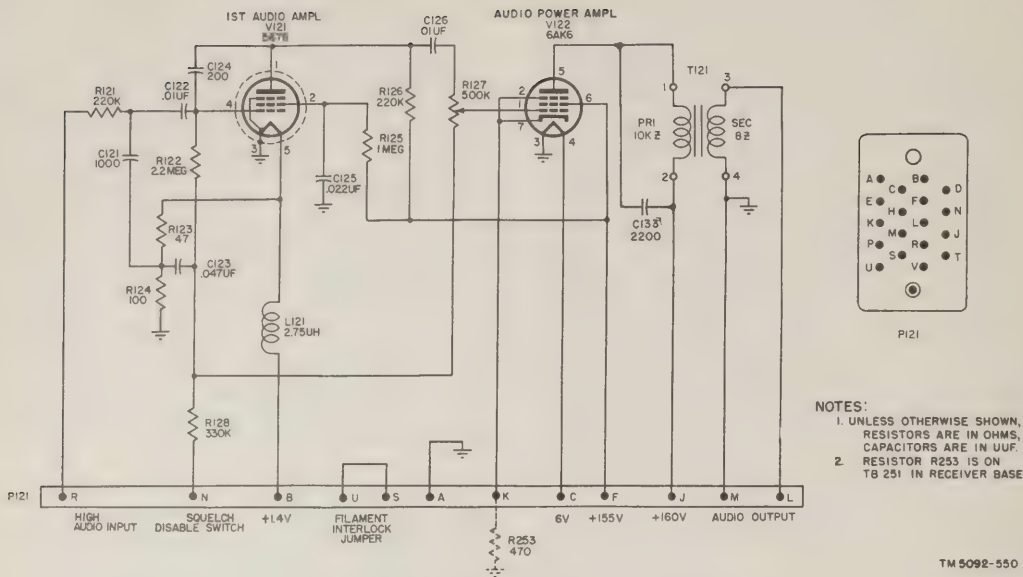

Figure 31. Radio Receiver R-394/U, first audio and audio power amplifiers.
57. First Audio Amplifier (fig. 31)
58. Audio Power Amplifier (fig. 31)